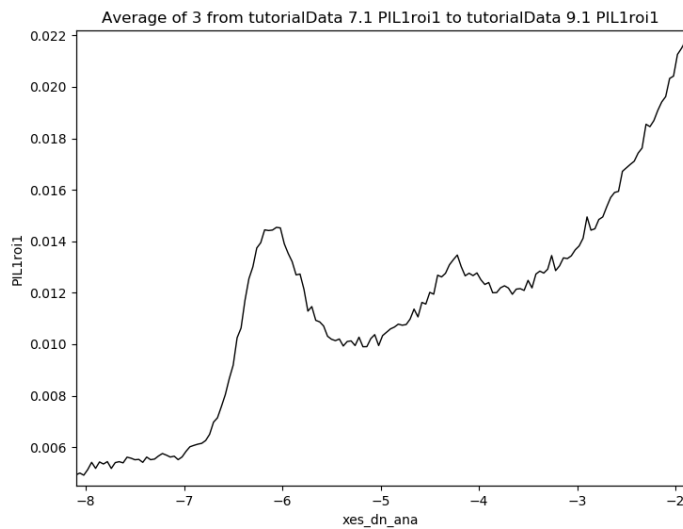

Figure 3-7: The averaged VtC data is shown.
- 8) Scans 7, 8, and 9 are all VtC spectra, so go ahead and plot all three of them together and then take the average. The result should look like Figure 3-7, where the improved signal-to-noise relative to one scan is clear. At least two peaks are apparent in the data—the $K\beta$ at -4.25° and the $K\beta_{2,5}$ at -6.1° —which can be assigned as originating from ligand 2s and 2p orbitals, respectively. Rigorous calibration and fitting of the data would be needed to assign the ligand identity using these data, but this type of quick analysis is useful for assessing the quality of the data at the